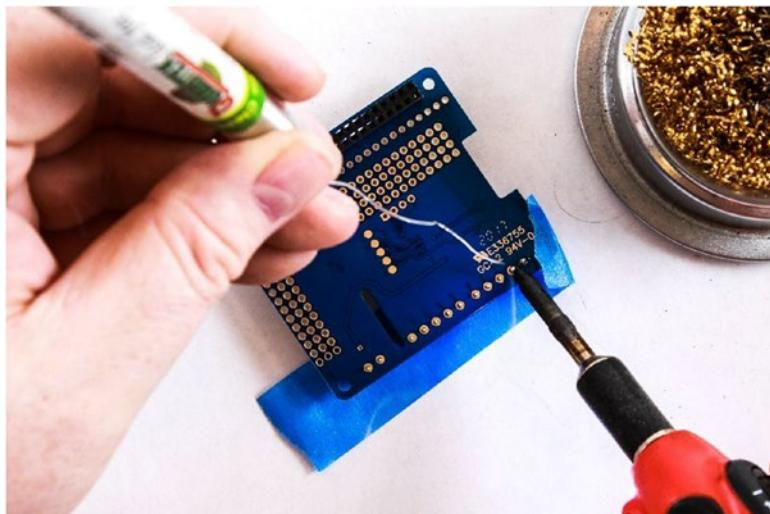

Figure 6-13. Soldering the terminal pins
10. Solder the terminals in place (see Figure 6-13).